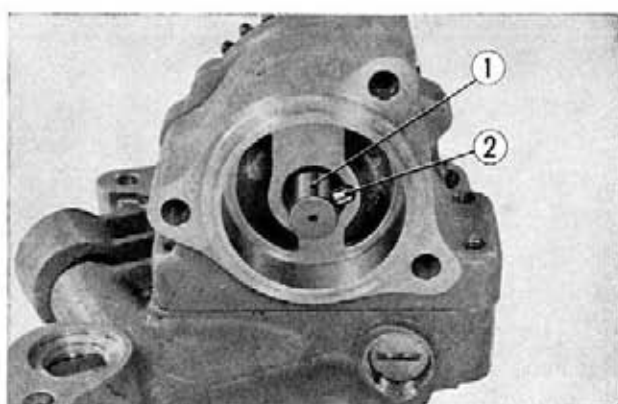

Fig. 3-11 ① Oil pump rotor shaft
4. To remove the oil pump rotors, disassemble the side cover and remove the rotor A, (delivery side); next, remove the dowel pin and pull out the shaft from the rotor body. This will permit the rotor B (scavenge side) to be removed. (Fig. 3-11)